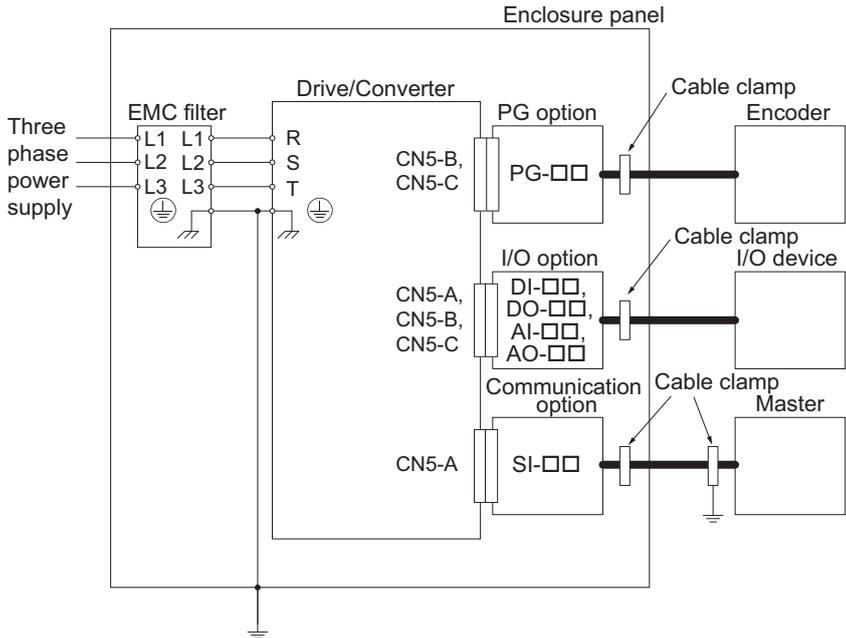

Figure 16 Option Installation for CE Compliance
2. Keep wiring as short as possible. Ground the shield according to Figure 16.